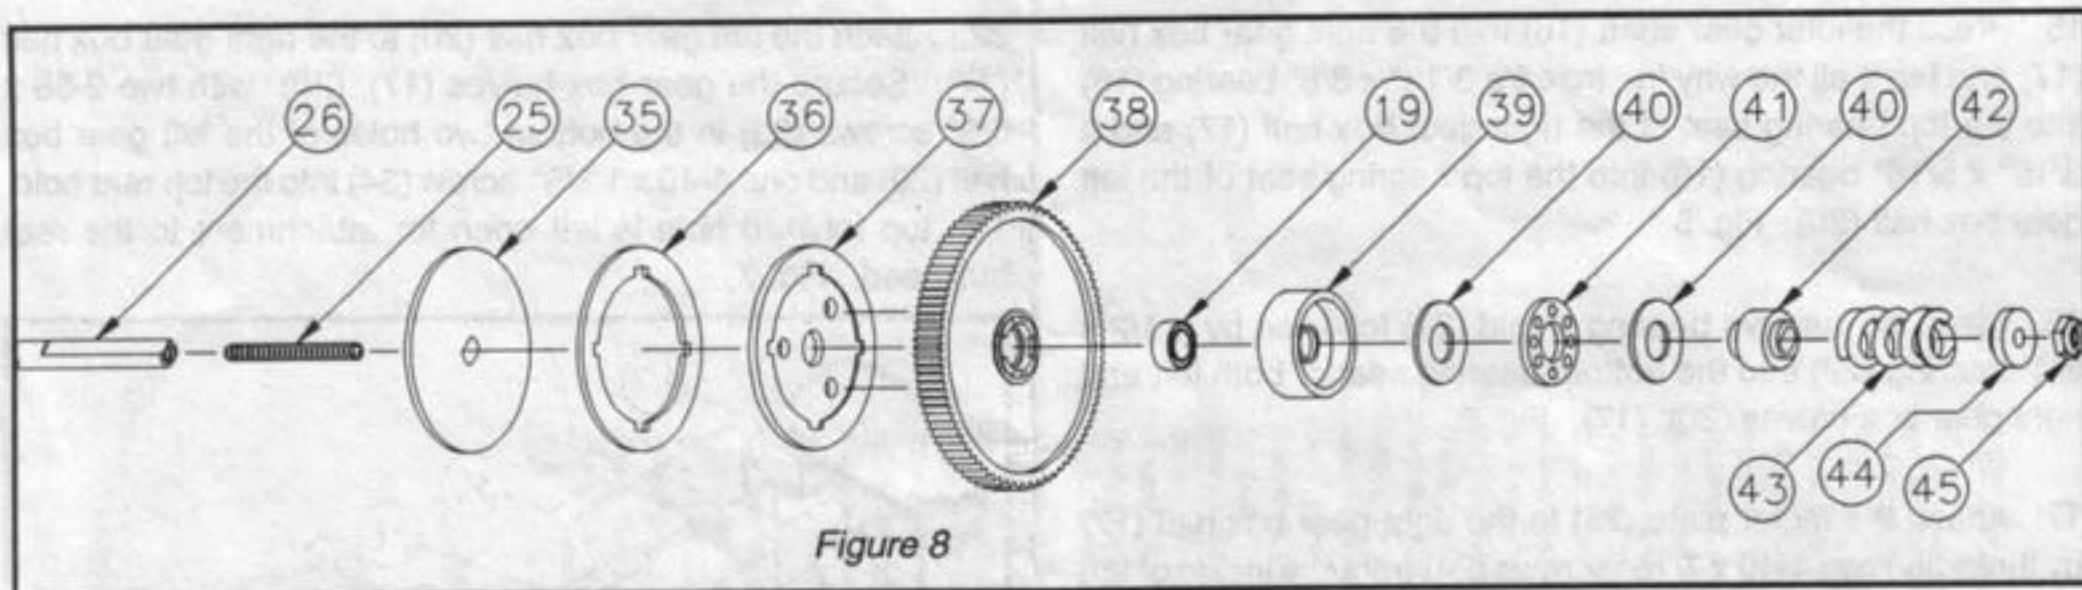

Figure 8
23. Slide the back plate (35) over the top gear shaft (26), aligning the flat sections of the shaft (26) with the flat sections of the back plate (35). Place the slipper pad (36) on the gear plate (37), and align the notches on the gear plate (37) with the notches on the slipper pad (36). Place the slipper pad (36) and the gear plate (37) over the top gear shaft (26), pad side first. Try to get this assembly as close to center on the shaft (26) as possible. Fig. 8 (Next Page)
24. Press a 3/16" x 5/16" bearing (19) into the center of the spur gear (38). The bearing will only go in about half way. *Do not try to force it further.* Carefully install the spur gear (38) with bearing side out. Lightly rotate the spur gear until the three posts line up with the holes in the gear plate (37). Snap into place being careful to keep the slipper pad (36) aligned. Fig. 8
25. Place the cup (39), open end out, over the shaft (26). Insert one thrust washer (40) then the thrust bearing (41) followed by the second thrust washer (40). These should all sit in the cup (39). Slide the slipper spacer (42), long side first, onto the shaft (26). The slipper spacer (42) should line up with the flat spots on the shaft (26) and sit in the center of the thrust bearing assembly. Place the spring (43) over the shaft (26), followed by the outer spring retainer (44) and secure with a 4-40 lock nut (45). Tighten the nut until it slightly compresses the spring (43). While doing so be sure that the slipper pad (36) stays aligned with the gear plate (37). Fig. 8